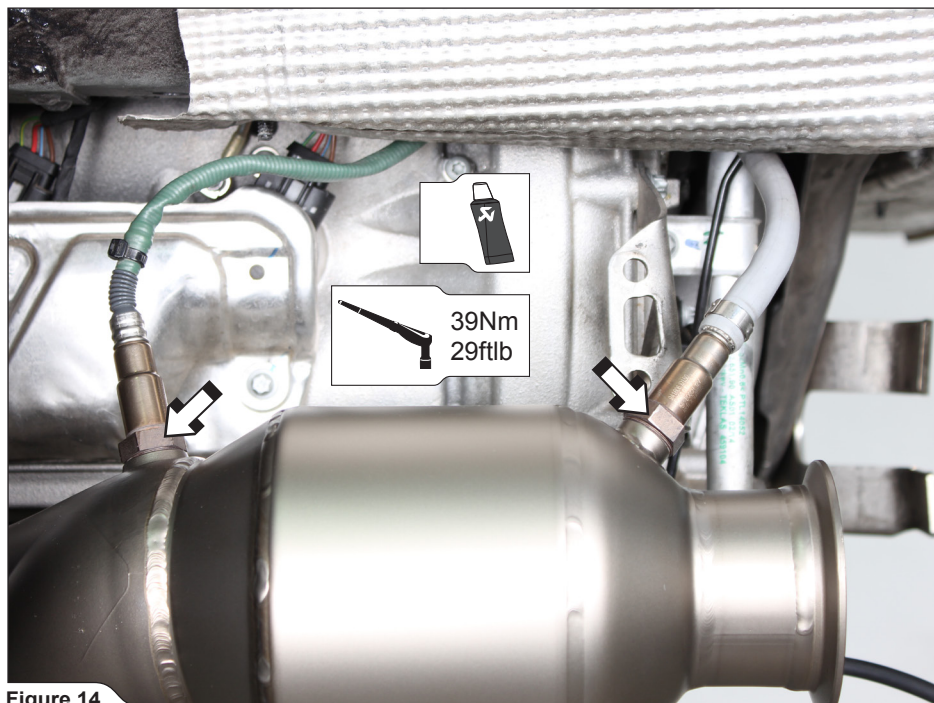

Figure 14
2. Attach lambda sensors on both sides of the vehicle (Figure 14).